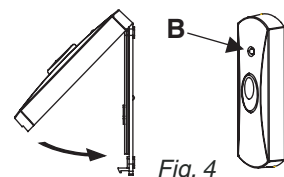

Fig. 4
When the bell push button is pressed, the confidence light (B) in Fig. 4, will illuminate to reassure the caller that the bell push is working.